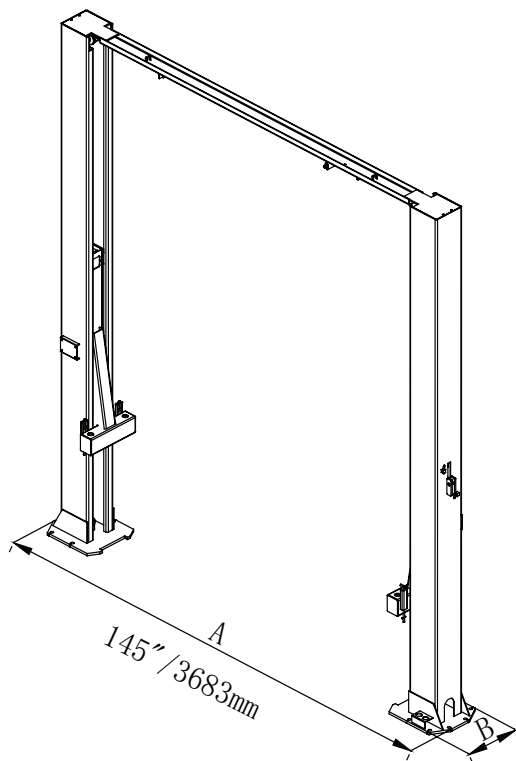

Fig. 1
4. Drill the hole for anchor bolt completely through the concrete. If an error is made during the installation of these anchors, this will allow for the anchor bolt to be driven down into the ground, so that a new anchor may be installed in place (fig.1).
- 3) Position the columns facing each other 145" (3683 mm) between outside base plates. Square the columns by measuring from corner points on base plates (within 1/4"). (Fig. 1) **NOTE:** The power unit column is referred to as the main side column and the non-power unit column is referred to as the offside column.